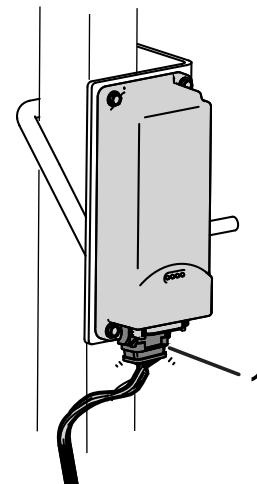

Figure 7
3. Install the connector labeled P02 on the telematics wire harness to the telematics device (Figure 7).